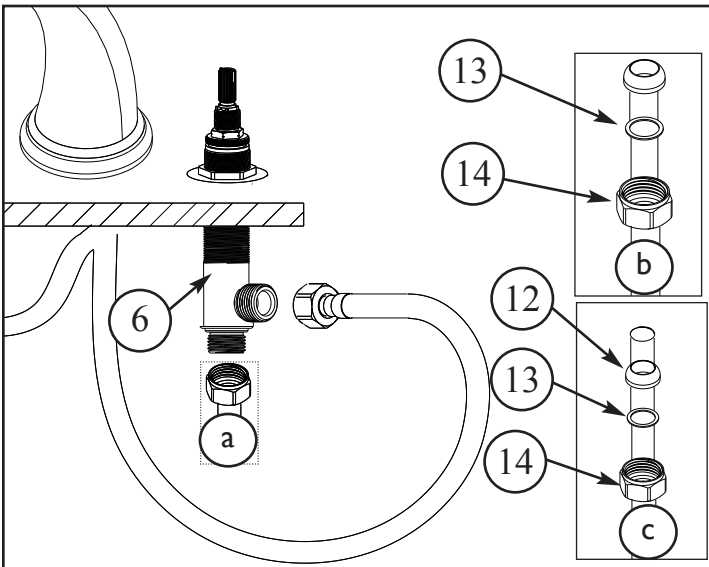
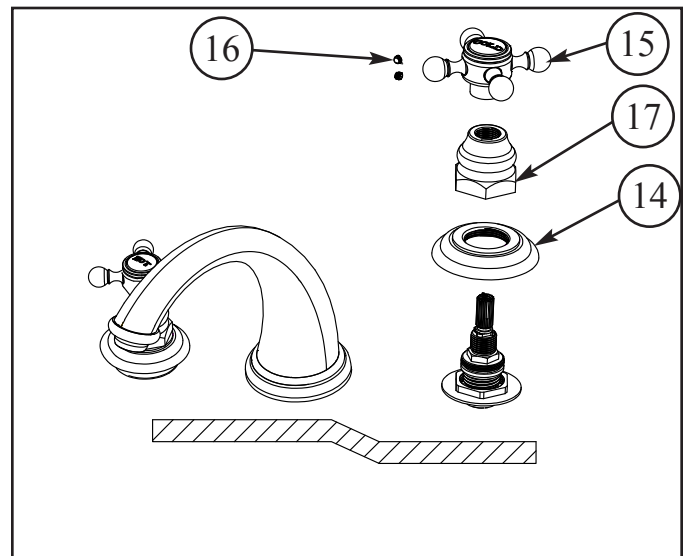

Figure 3
Figure 4
4. Connect hot/cold water supply to appropriate 1/2" NPSM valve BODY (7), utilizing one of the three following types of risers. Supply risers not included. See Figure 3.
- a. 1/2" IPS flexible riser: discard rubber nosecone WASHER (11), friction WASHER (12) and coupling NUT (13).
- b. 3/8" or 1/2" OD bullnose riser: utilize friction WASHER (12) and coupling NUT (13).
- c. 1/2" copper riser: utilize rubber nosecone WASHER (11), friction WASHER (12) and coupling NUT (13).
5. Attach ESCUTCHEON (14), BONNET (17) and HANDLE (15) to cartridge. Secure handles into place with SETSCREW (16). Any adjustments for rotational alignment must be made to the valve BODY (7) - not to the cartridge. (Note: Allow minimum spacing between HANDLE (15) and BONNET (17) to prevent damage to the surface finish.) See Figure 4.